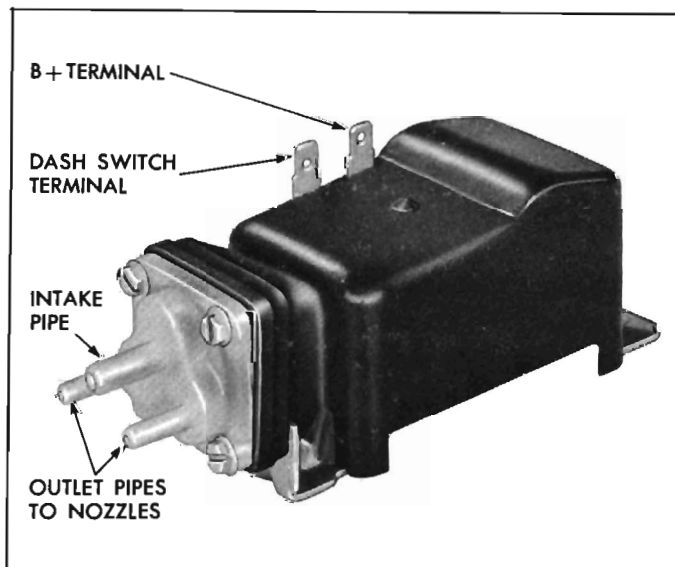

Fig. 8-16—Washer Pump
The positive displacement washer pumps used on the new 1962-63 one and two speed non-depressed park wipers differ considerably in appearance from the 1961 integral type pump (fig. 8-16), but the basic pumping action and valve arrangement remains the same. The pump mechanism consists of a small bel-
**CAUTION:** Install washer multiplug harness connector with battery lead on terminal with no tang (fig. 8-16). Incorrect installation of connector will result in direct ground and destroy wiper motor fuse.